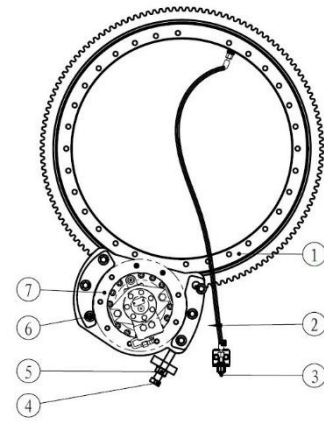

Figure 1-1
- 2) Check lubrication in the turntable bearing and the swing gearbox at intervals of 100 hours. It is necessary for maintaining performance and maintenance life to lubricate the turntable bearing frequently. Incorrect lubrication will cause damage to components. As shown in Figure 1-1, find the grease port 3 on the side of the bearing, swing the turntable multiple times while filling grease until grease overflows from the upper and lower fixed surfaces of the bearing. Lubricating grease must be: Lubrication EP2 or equivalent.